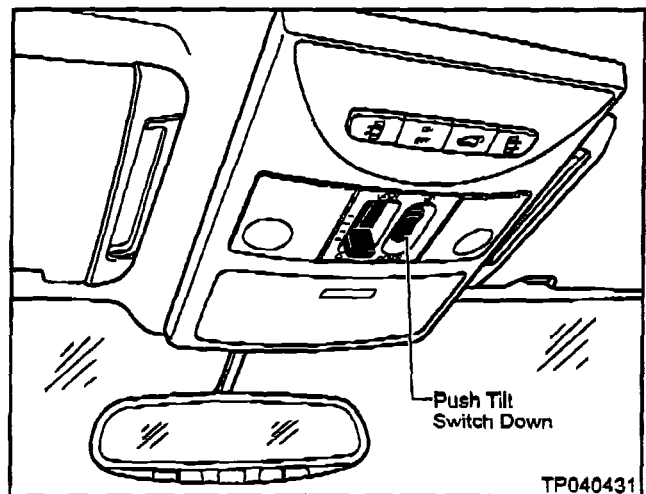

Figure 25
- a. Push the Sunroof Tilt Switch in the tilt DOWN position (repeat as necessary) until the Sunroof is fully closed. See Figure 25.
- b. Then, push and hold the Sunroof Tilt Switch (see Figure 25) in the tilt DOWN position for more than 2 seconds.